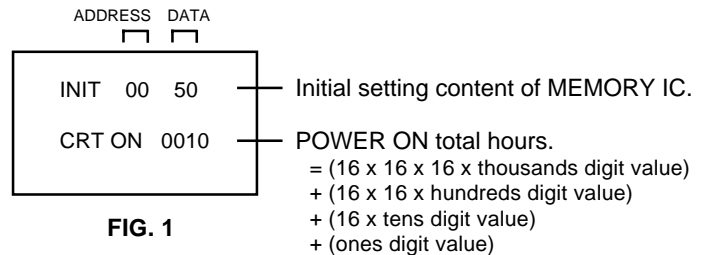

FIG. 1
- While holding down VOLUME button on front cabinet, press key 6 on remote control for more than 1 second. ADDRESS and DATA should appear as FIG 1.